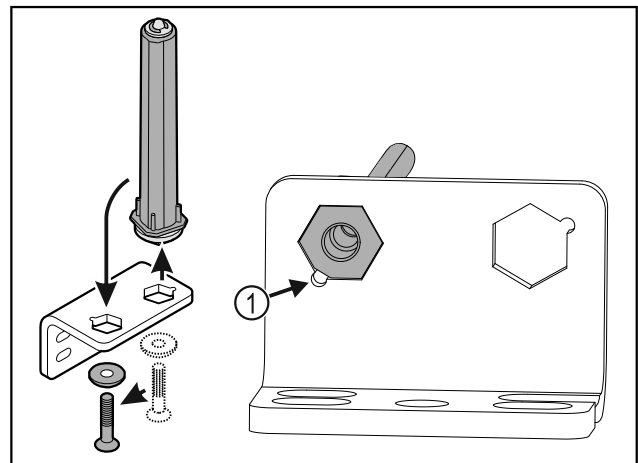

Fig. 28
- ▶ Make sure the pin chamfer Fig. 28 (1) faces the round hole when you put it in.